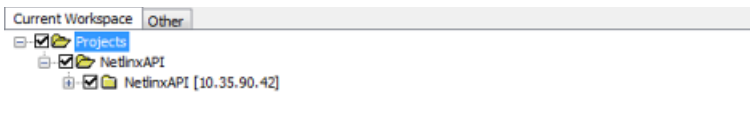

FIG. 204 Select Files for File Transfer dialog - Current Workspace tab
3. In the *Current Workspace* tab, select the top-level *Projects* folder and click **OK** (FIG. 204):